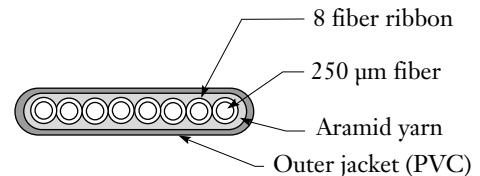

Figure 1
1.2 Corning Cable Systems ribbon interconnect cables are lightweight, flame retardant cables designed for high performance transmission of digital and analog signals in process control, computer and video applications (Figure 1). This cable series is available in eight or twelve fibers with single-mode, 50 μm or 62.5 μm cores for use with a wide variety of optical sources and detectors.